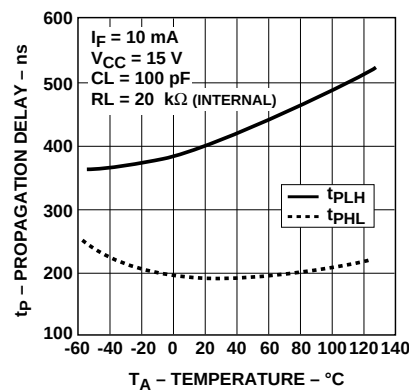

Figure 8. Propagation Delay with Internal $20\text{ k}\Omega$ R_L vs. Temperature.
- Due to the tolerance of the internal resistor, and since propagation delay is dependent on the load resistor value, performance can be improved by using an external 20 k Ω 1% load resistor. For more information on how propagation delay varies with load resistance, see Figure 8.